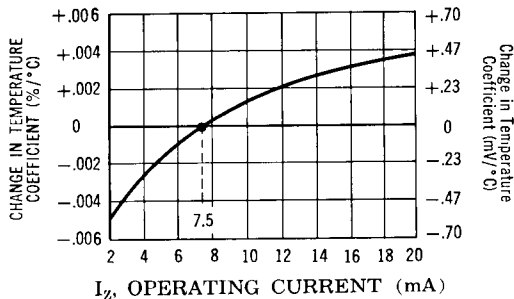

FIGURE 3 Typical change of Temperature Coefficient with Change in Operating Current.
The curve shown in Figure 3 is typical of the diode series and greatly simplifies the estimation of the Temperature Coefficient (TC) when the diode is operated at currents other than 7.5 mA.
EXAMPLE: A diode in this series is operated at a current of 7.5 mA and has specified Temperature Coefficient (TV) limits of $\pm 0.002\%/^{\circ}\text{C}$. To obtain the typical Temperature Coefficient limits for this same diode operated at a current of 6.0 mA, the new TC limits ($\%/^{\circ}\text{C}$) can be estimated using the graph in FIGURE 3.
In conjunction with Fig. 3 this curve can be used to estimate total voltage regulation under conditions of both varying temperature and current.